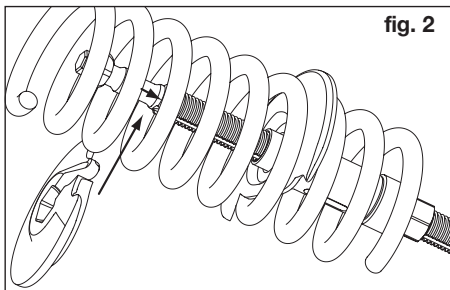

fig. 2
- Push upper tensioning jaw ④ onto the spindle (figure 2).